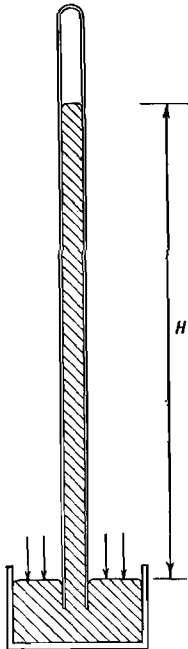

Fig. 6.7. Torricellian barometer.
**33. Surface Tension.** It will be noticed that the top surface of the mercury in the barometer is curved as is shown in Figure 6.7. The mercury surface is convex (curves up) but if the tube contains water the surface is concave (curves down). This curved top surface is called the *meniscus*. If the adhesion (attraction between unlike molecules) between the liquid and the tube is greater than the cohesion (attraction between like molecules) between the molecules of the liquid, the liquid wets the tube and the surface is concave. If the cohesion of the liquid is greater than the adhesion of the liquid for the tube the liquid does not wet the tube and the surface is convex. The curved surfaces of liquids in small tubes are due to surface tension.